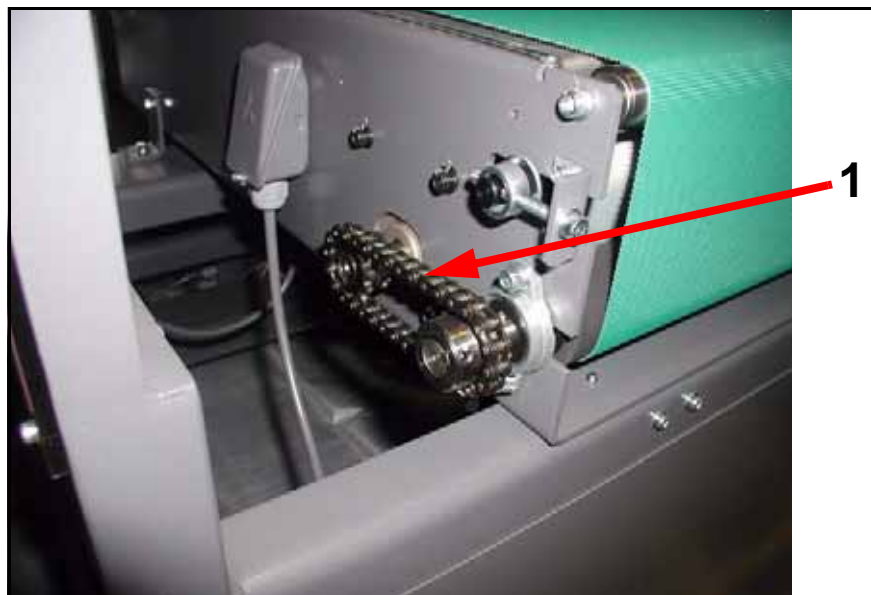

Figure 6-16. Exit Conveyor Drive Chain
- 3 Use a small paint brush to apply a thin but thorough coat of oil to chain (1 in Figure 6-16).